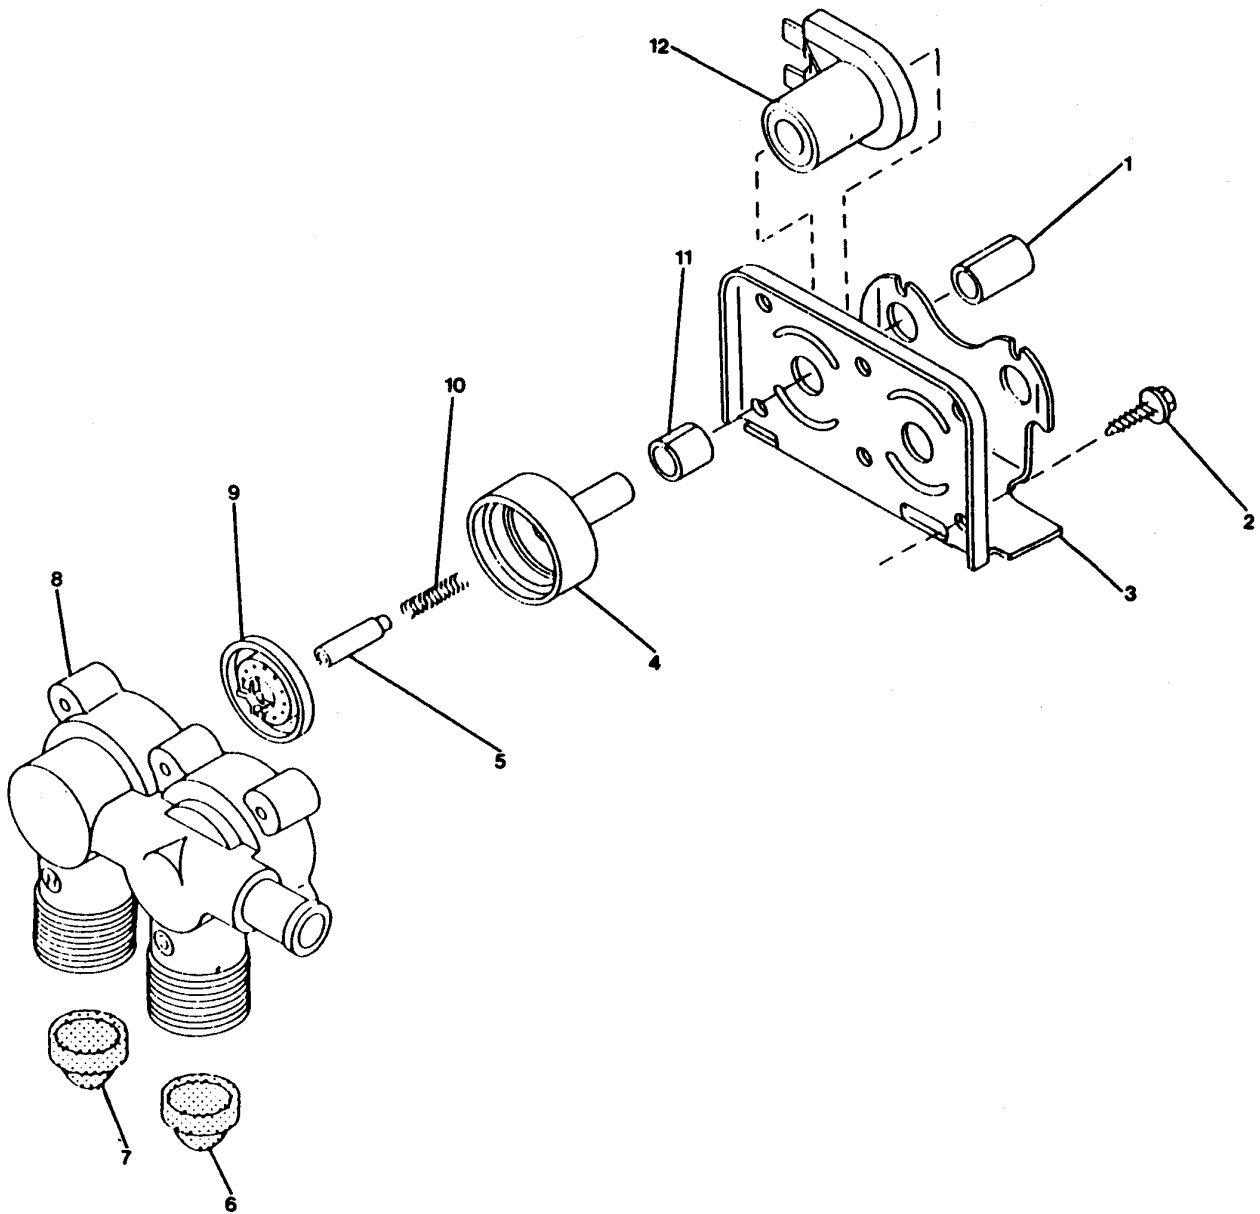

FIGURE 3-87. Washer Machine Water Mixing Valve.
- aq. Install control panel support (26) and control panel (25).
- as. Install speed nut (5) and machine screw (1).
- at. Install panel (7) and hexagon head capscrews (8, 9).
- au. Install bracket (17).
- av. Install pressure switch (19) and hexagon head capscrew (18).
- aw. Install gasket (20) and control hood (6).
- ax. Install washers (12, 15), hexagon head capscrews (13), and machine screw (16).
**3-93. Repair Washer Machine Water Mixing Valve Assembly. (Figure 3-87)**